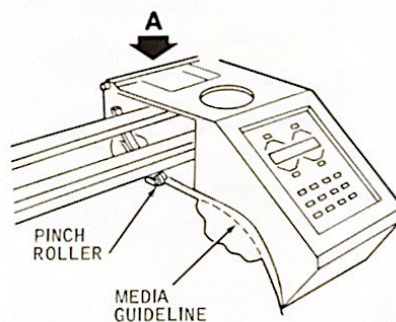

Figure 1-7. 1023 Plotter Media Alignment
1023 PLOTTER MEDIA LOADING PROCEDURE (Refer to Figure 1-7)
6. To square up the sheet, push the upper right corner of the sheet against the stops as shown in Figure 1-7, View A and align the right edge of the sheet along media guidelines.